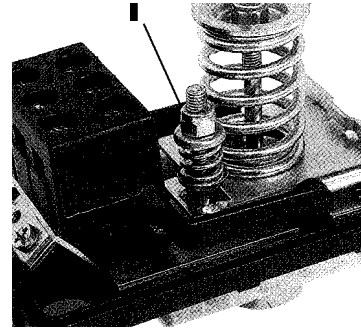

Fig.9.3.2
- Remove pressure-switch covering, here you can find a big and a small tension spring (see fig 9.3.2).